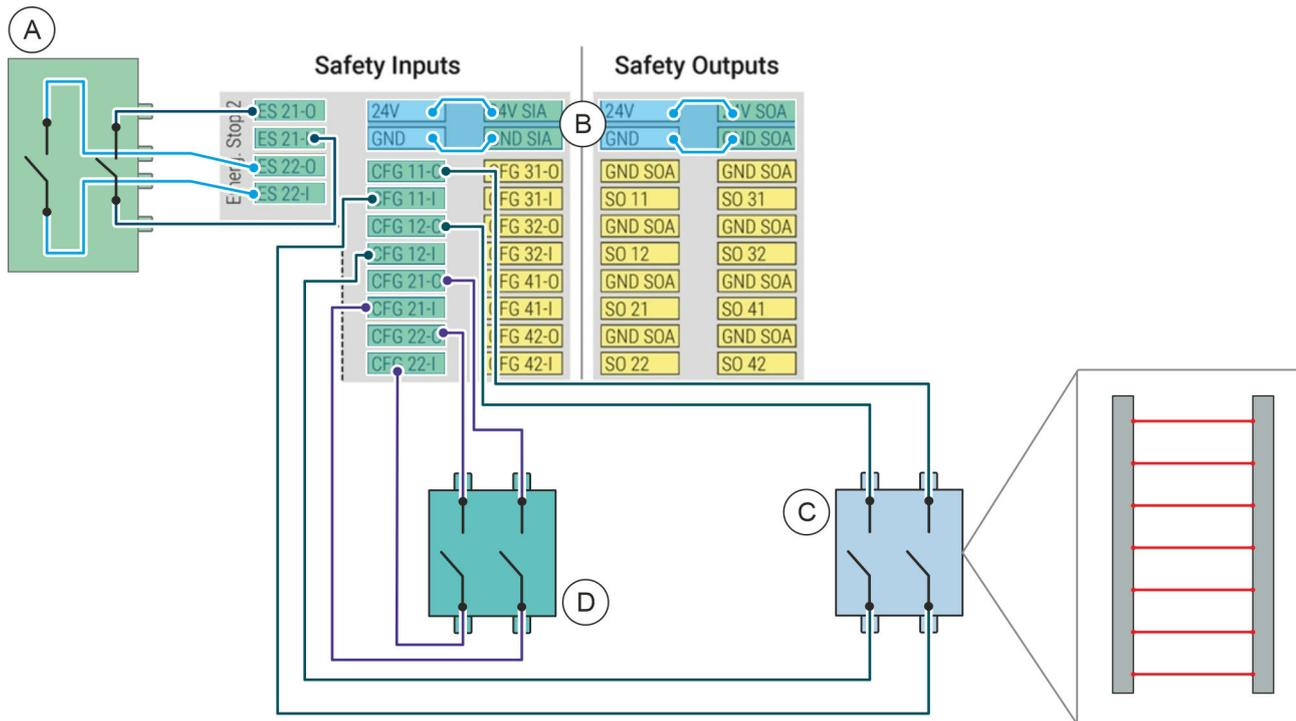

Fig. 75 Connecting a safety stop with reset button (example)
- (A) Emergency stop switch
- (B) Internal power supply
- (C) Light curtain
- (D) Reset button
01. When connecting a light curtain and a reset button, note the example configuration in Fig. 75.
02. Ensure that the internal power supply for the interfaces is guaranteed in accordance with Fig. 75.